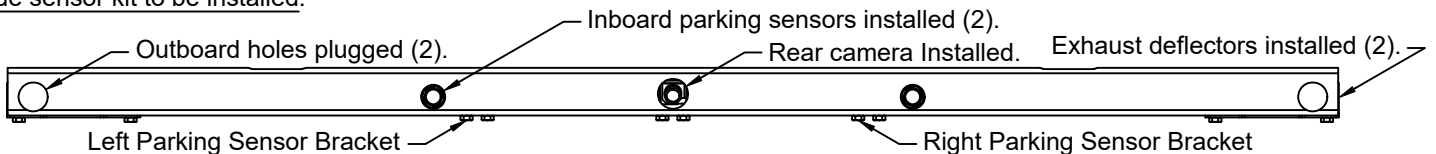

Figure 6: Assembled rear camera and sensor bar
- 6 sensor harness: **Plug** the outboard sensor holes (Figure 6) and perform the next steps on the inboard pair of sensors only. The remaining sensors are mounted to the side sensor kit.
9. **Install** exhaust deflectors between the tailpipes and rear camera and sensor bar using provided 1/4" hex bolts and nuts (Figure 6).